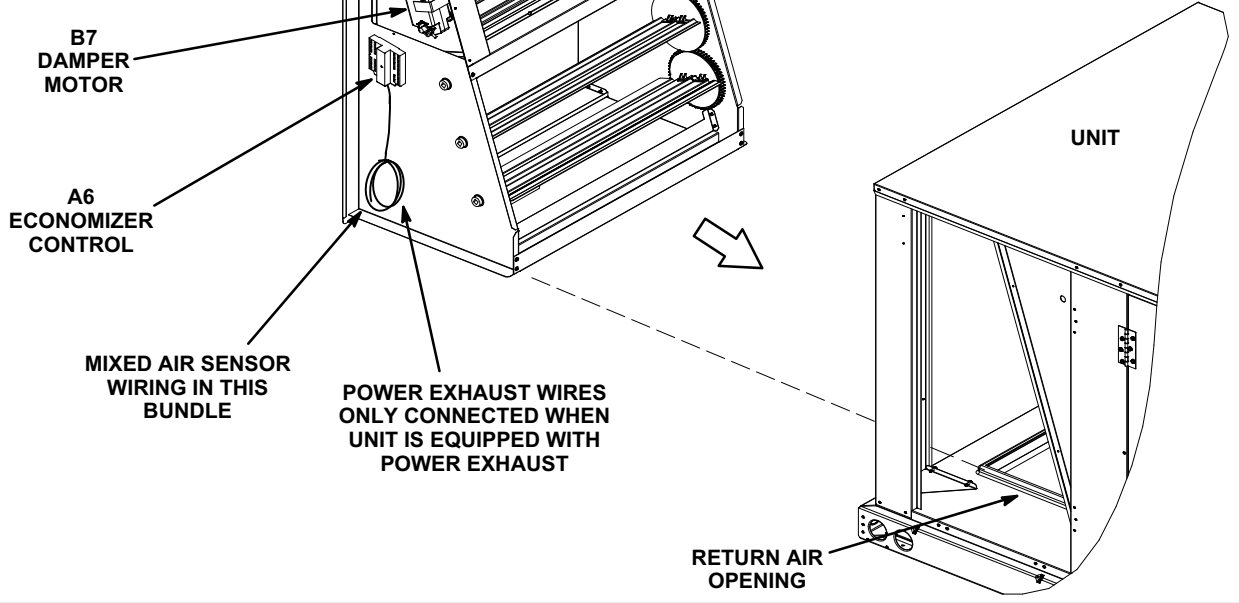

FIGURE 3
- 4- Install damper assembly through end of unit. Fit opening in bottom of damper assembly over the return air opening. See figure 3 or 4.